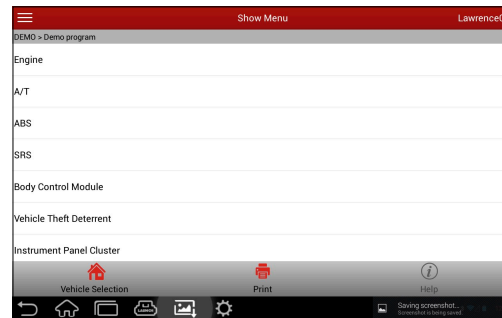

Fig. 5-15
3. Tap “Demo” to enter system selection interface. See Fig. 5-15.